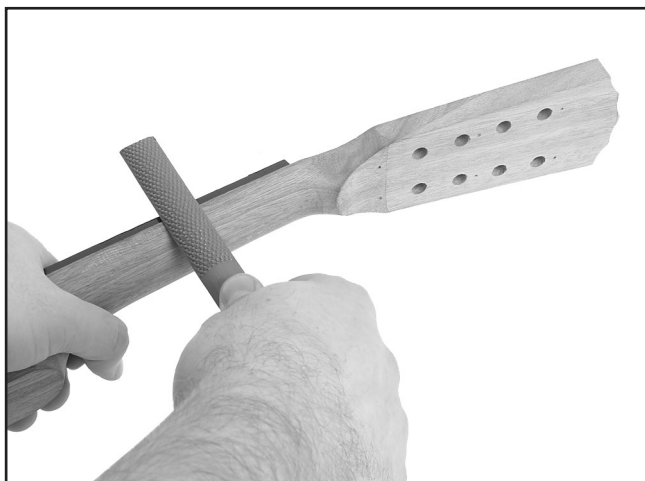

Figure 16. Shaping the neck.
2. Use a 4-in-1 shoe rasp to shape the neck until it matches the width of the fretboard (**Figure 16**).